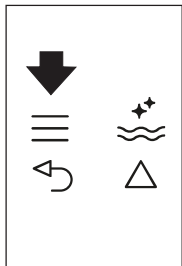
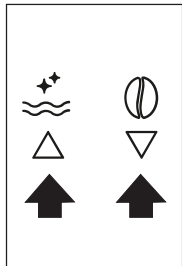

Fig. 22
Fig. 9
- ▶ Press the  icon (B2) to enter the menu (Fig. 22) or press the icons   (B7) and (B8) (Fig. 9) until "PROGRAM HOT WATER" is displayed.